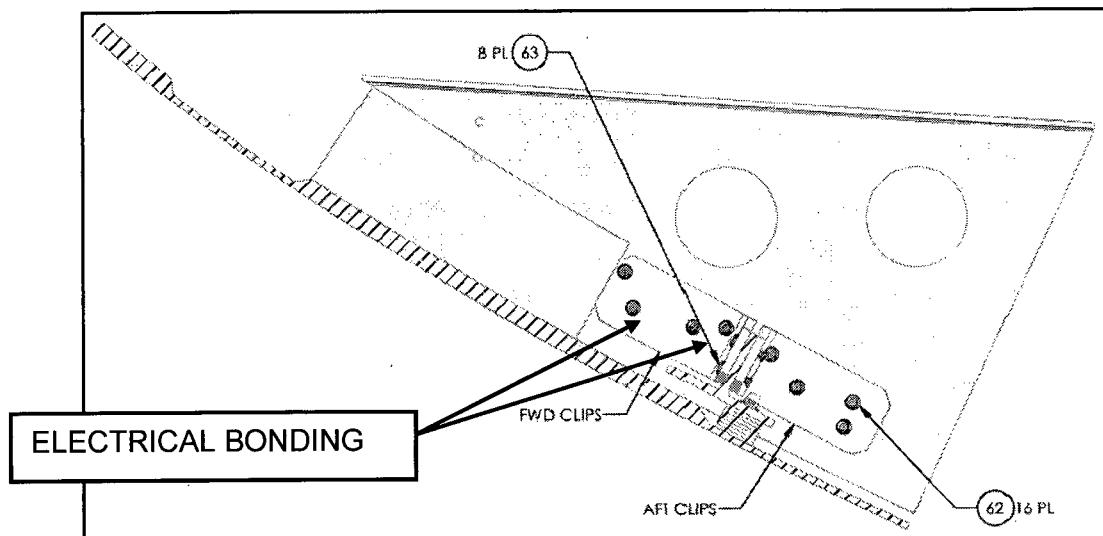

Figure 5.9: Rivet Locations on Airframe for Aft Intercostal Assembly
5.17 Using Magnobond, bond the forward Clips to the airframe, aligning the rivet holes and cleco in place. Apply Magnobond to the aft Clip/airframe faying surface and cleco the aft Clips and Tee into position, making sure all rivet holes are aligned. Prepare riveted connections as indicated in as shown in Figure 5.9 (see Appendix A). Install Rivets (F/N 62 & 63).
Parts List for Figure 5.9: